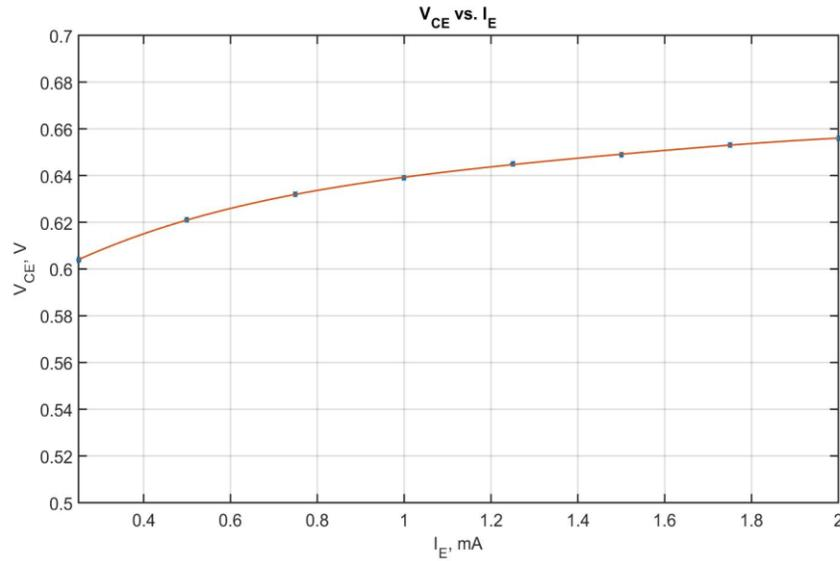

Fig. 5. Diode-connected transistor  $V_{CE}$  vs.  $I_E$ , measured data with 4th – order polynomial curve fit.
2. Plot the measured data from Table 3 on a graph of  $V_{CE}$  vs.  $I_E$ . Create a 4th-order polynomial curve fit to the data and plot that curve on the same graph. Restrict the  $I_E$  axis to range used for measurements. On a separate graph, plot  $R_o = dV_{CE}/dI_E$ . Figs. 5 and 6 show example plots. Appendix 2 has the MATLAB code used to obtain the example with measured data removed from the arrays.